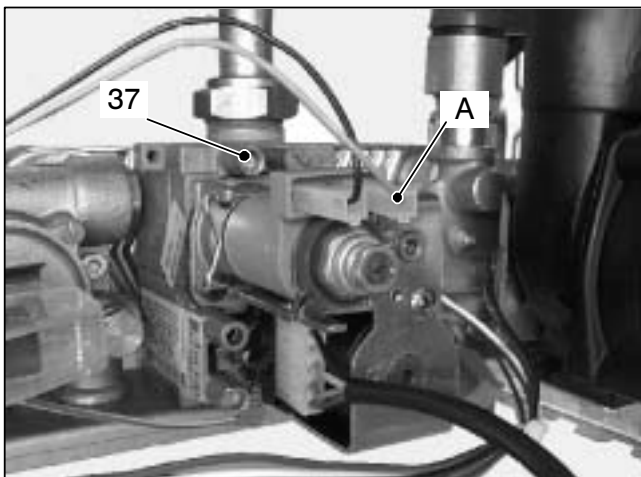

Fig. 7.5
- 2 Loosen the internal screw 37 (Fig. 7.5) on the Outlet Pressure Test Point of the Gas Valve and
- 8 Disconnect the gas modulator coil by removing the electrical connector A (Fig. 7.5).
- 3 Unscrew the gas valve's outlet pressure test point 37 (Fig. 7.5) and connect a pressure gauge.